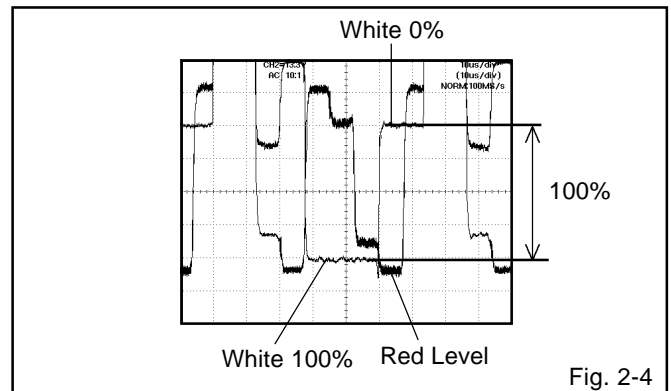

Fig. 2-4
6. Press the RIGHT/LEFT button on the remote control until the red color level is adjusted to $110 \pm 5\%$ of the white level. **(Refer to Fig. 2-4)**
12. Press the RIGHT/LEFT button on the remote control until the red color level is adjusted to $110 \pm 5\%$ of the white level. **(Refer to Fig. 2-4)**